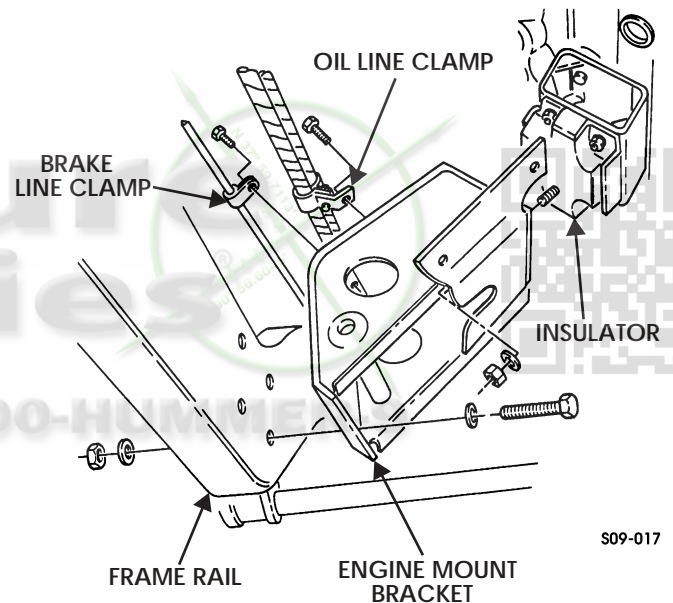

Figure 9-29: Left Engine Mount Bracket
1. Remove two capscrews securing brake line and oil line clamps to engine mount bracket (Figure 9-29).
4. Remove four locknuts, washers, capscrews, washers, and engine mount bracket from frame rail. Discard locknuts (Figure 9-29).
1. Install engine mount bracket on frame rail with four washers, capscrews, washers, and locknuts. Tighten locknuts to 90 lb-ft (122 N•m) (Figure 9-29).
3. Secure engine mount bracket to insulator with two washers and locknuts. Tighten locknuts to 90 lb-ft (122 N•m) (Figure 9-29).